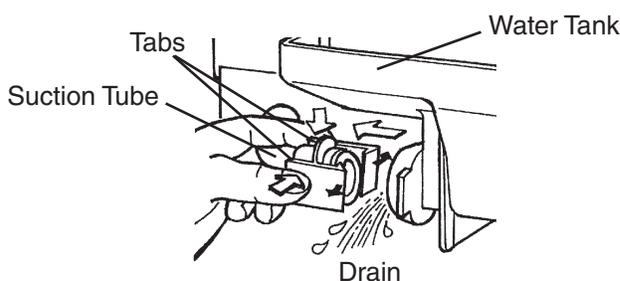

Fig. 34
- 3) Inside the storage bin, disconnect the suction tube by squeezing the tabs and pulling the tube clear. See Fig. 34. Allow the water tank to drain.